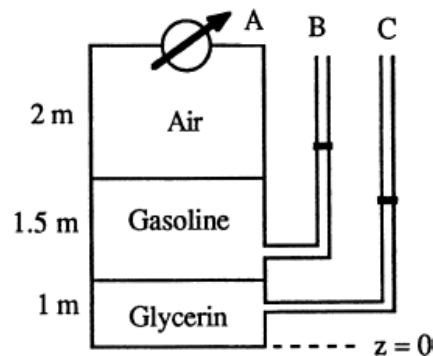

Fig. P2.11
**2.11** In Fig. P2.11, sensor A reads 1.5 kPa (gage). All fluids are at 20°C. Determine the elevations  $Z$  in meters of the liquid levels in the open piezometer tubes B and C.
**Solution:** (B) Let piezometer tube B be an arbitrary distance  $H$  above the gasoline-glycerin interface. The specific weights are  $\gamma_{\text{air}} \approx 12.0 \text{ N/m}^3$ ,  $\gamma_{\text{gasoline}} = 6670 \text{ N/m}^3$ , and  $\gamma_{\text{glycerin}} = 12360 \text{ N/m}^3$ . Then apply the hydrostatic formula from point A to point B: